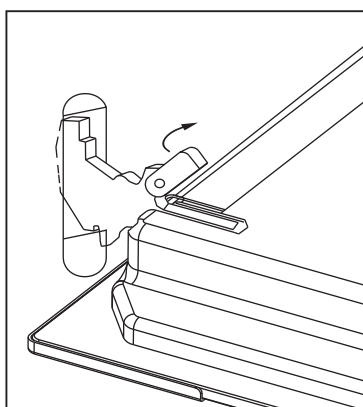

Figure 2
2. Lift up and push the small levers located on the two hinges all the way back. (Refer to Figure 2.)